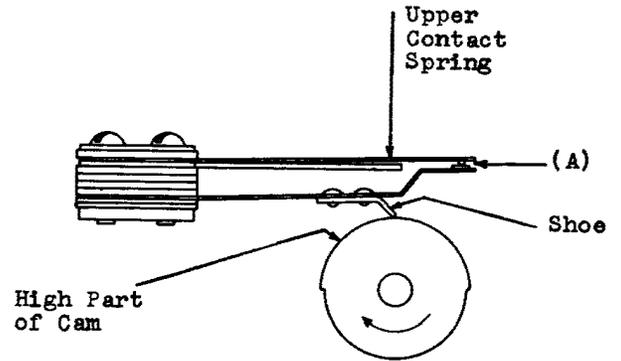

Fig. 6 — High-speed Cam Assembly — Method of Measuring Contact Pressure
**2.15 Contact Pressure:** Fig. 6(A) — With the shoe of the lower contact spring on the *high* part of the cam, the contact pressure between the upper and lower springs measured at the end of the upper spring shall be